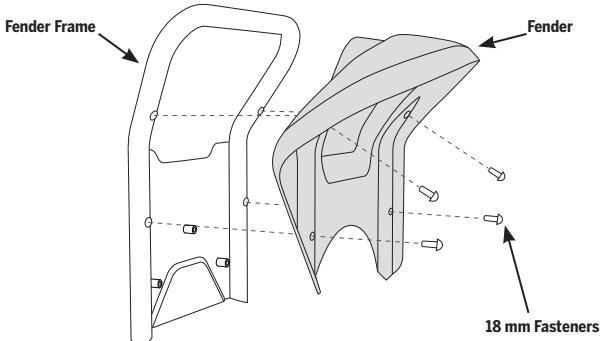

Figure 73: Remove the Fender from the Fender Frame
4. To remove the Fender from the Fender Frame, remove the four 18 mm fasteners using a 4 mm hex wrench (see Figure 73).